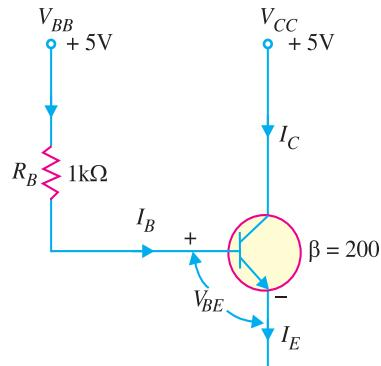

Fig. 8.61
**Example 8.39.** For the circuit shown in Fig. 8.61, find the transistor power dissipation. Assume that  $\beta = 200$ .